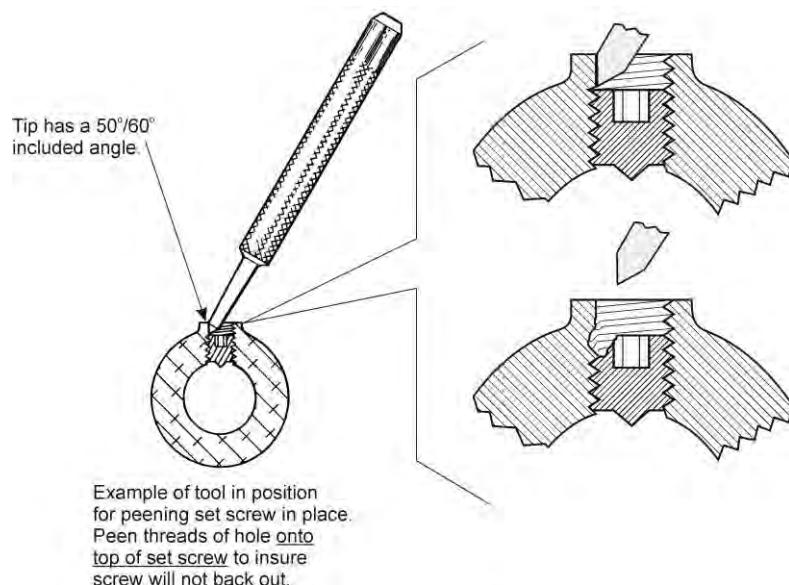

Figure 59
- (3) Torque the set screw 32 to 38 in.-lb. (3.6 to 4.3 Nm).
- (4) Use a smaller center punch (peening tool) with a 3/32-inch (2.38 mm) diameter at an approximate 50°/60° angle to peen the threads of the hole at the top of the taper above the set screw to prevent the set screw (as shown in Figure 59) from backing out.